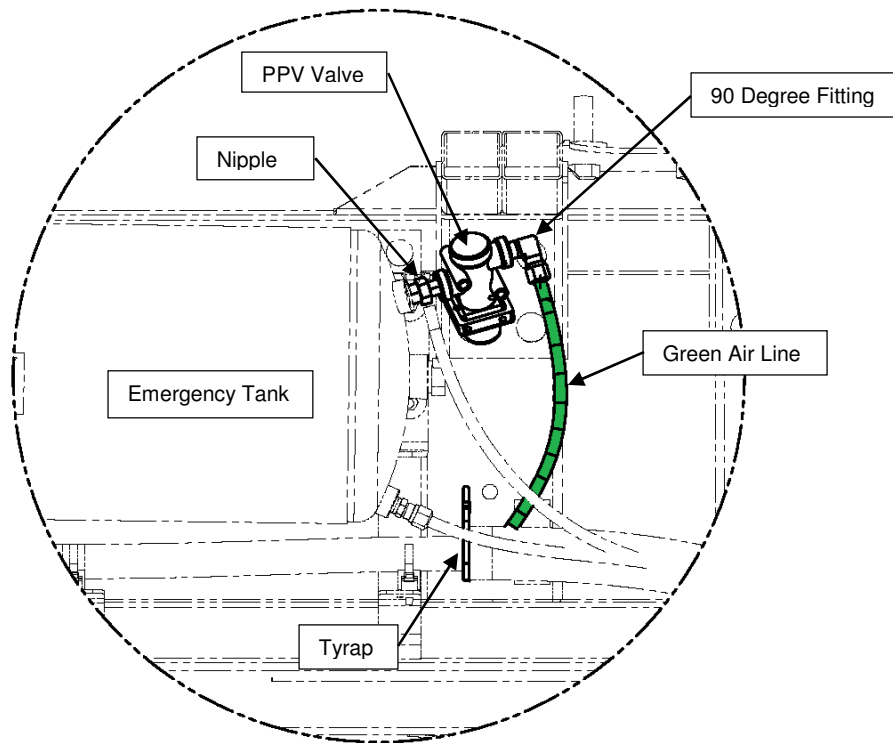

Figure 5: New PPV Valve Installation at the Emergency Tank.
18. Using Loctite 567 thread sealant NF P/N 8110442, install a 3/8 X 1/4" NPT nipple NF P/N 5993697 in the emergency tank fitting. Figure 5.
19. Using Loctite 567 thread sealant NF P/N 8110442, install a new PPV valve NF P/N 6344936 on the nipple. Ensure that the air flow direction indicator points towards the Emergency Tank. Orient the PPV valve so that it does not interfere with the roof cross bracing. Figure 5.
20. Using Loctite 567 thread sealant NF P/N 8110442 install 90 degree fitting NF P/N 5953778 in the second port of the PPV valve. Orient the new fitting downward. Figure 5.
21. Trim the new 3/8" green airline installed earlier on the Wet Tank to length and attach it to the second port of the PPV valve. Figure 5.